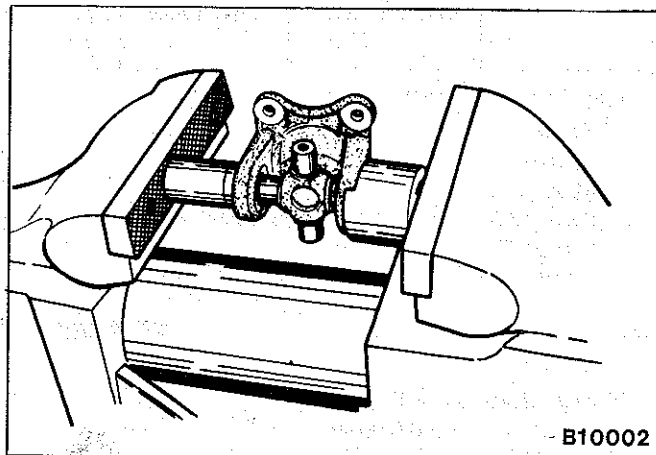

Fig. 2—Removing roller and bearing cup
- (1) Mark all mating components prior to dismantling the propeller shaft.
- (2) Remove retainer and press one bearing cup assembly out of the yoke by pressing the opposite bearing cup. Refer Fig. 2.
- (3) Press the remaining bearing cup assembly out by pressing on the end of the cross assembly.
- (4) Remove cross from yoke. The cross and seal retainers are serviced as an assembly. Do not remove seal retainers from the cross. Care should be taken to prevent damage to the components if they are to be re-used.